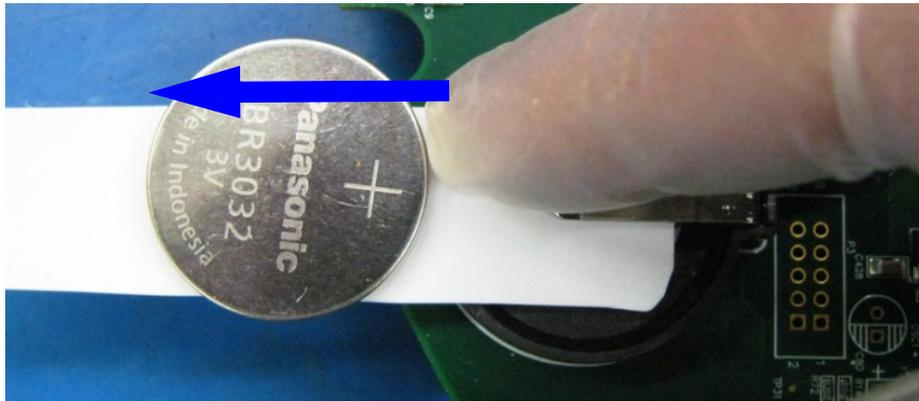

Figure 3.12: Sliding the Battery Out
9..Using a gloved hand/finger, gently slide the battery out of the holder and along the battery insertion tool. See Figure 3.12.